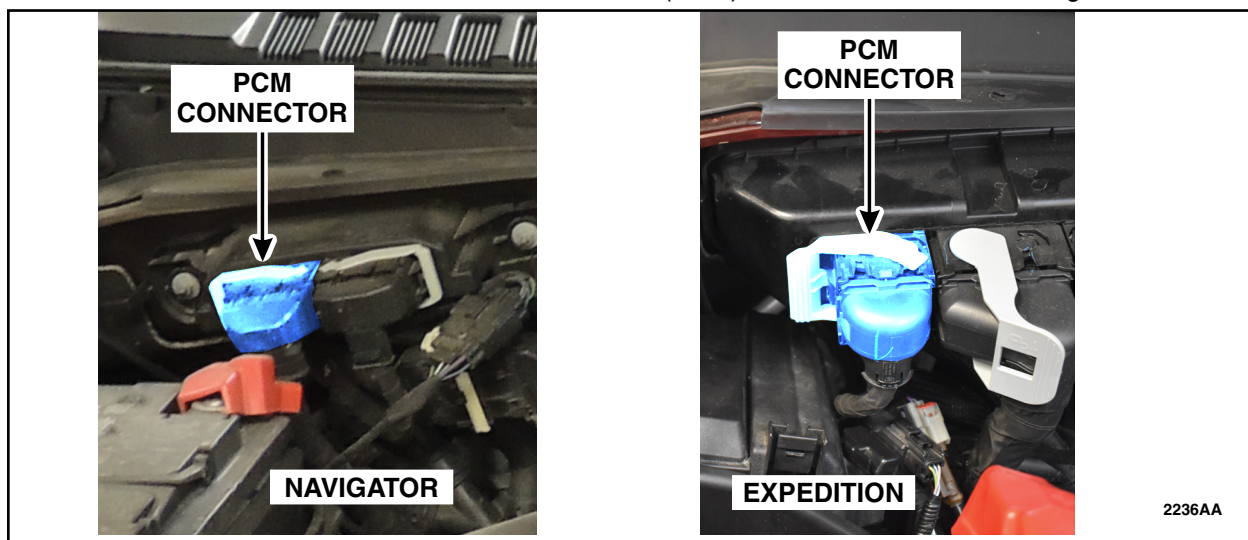

FIGURE 6
7. Disconnect the outboard Powertrain Control Module (PCM) electrical connector. See Figure 6.